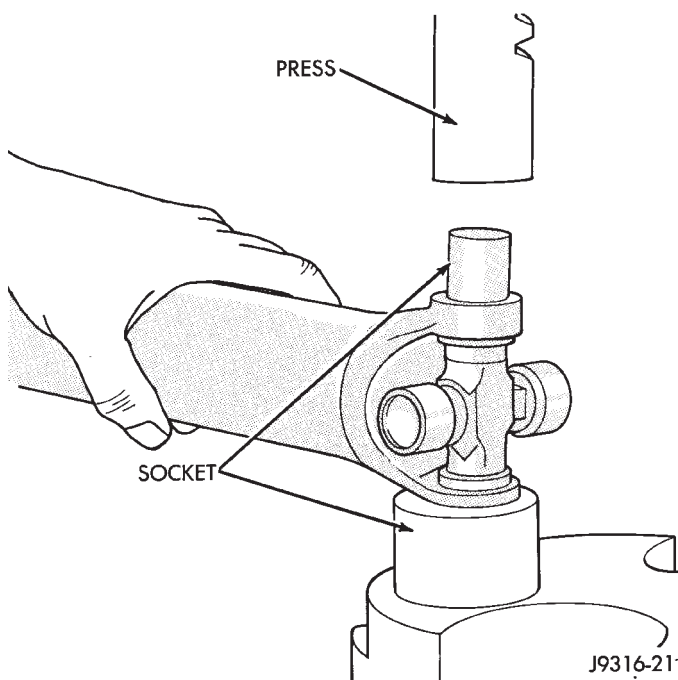

Fig. 16 Press Out Bearing
(4) Set the yoke in an arbor press or vise with a socket whose inside diameter is large enough to receive the bearing cap positioned beneath the yoke.
(5) Position the yoke with the grease fitting, if equipped, pointing up.
(6) Place a socket with an outside diameter smaller than the upper bearing cap on the upper bearing cap and press the cap through the yoke to release the lower bearing cap (Fig. 16).